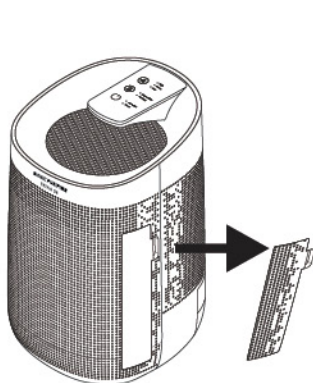

fig. 1
1. Pull and lift to open the filter cover (fig. 1).